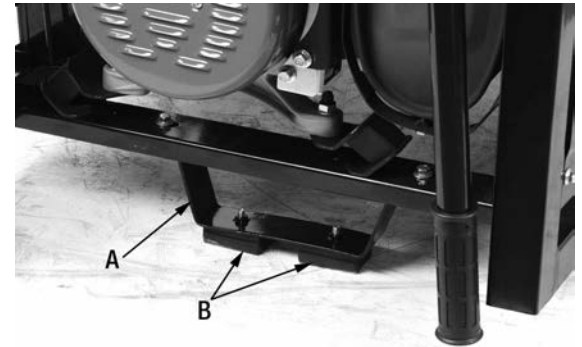

Figure 3
Now that the wheels are installed, install the frame support (A) Fig.3 underneath the frame. First install the two rubber feet (B) to the frame support (A) using flange head hex. bolts. Once installed, install the frame support to the frame using flange head hex. bolts.